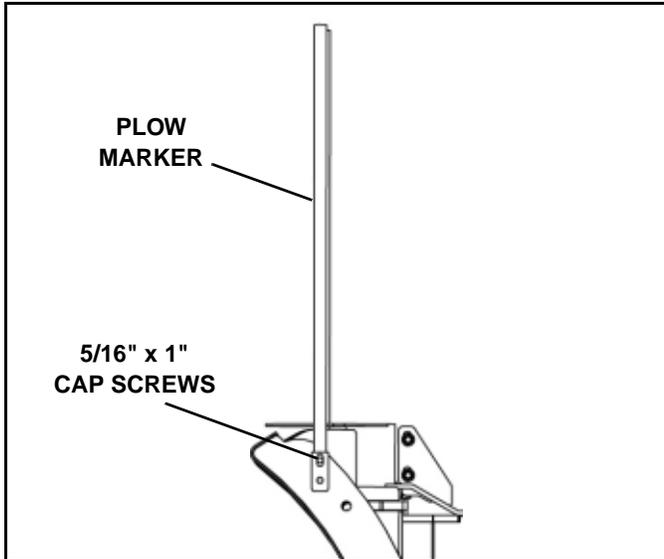

Figure 1-10
10. Attach a plow marker to each wing as shown and secure using 5/16" x 1" cap screws and locknuts. (See Figure 1-10)